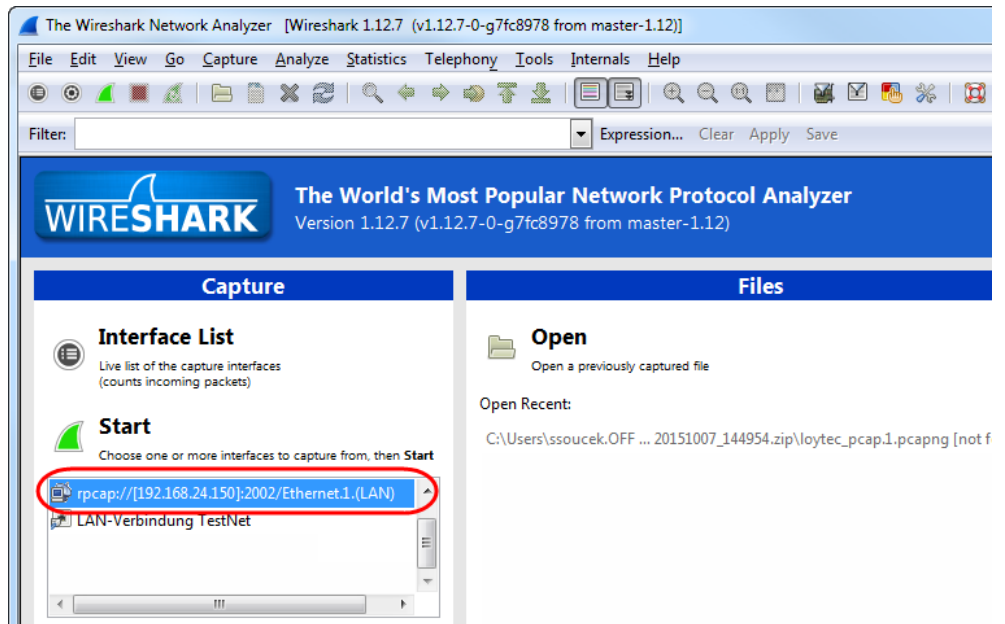

Figure 164: Start Remote Capture in Wireshark.
2. Click the **Start** button as shown in Figure 164.